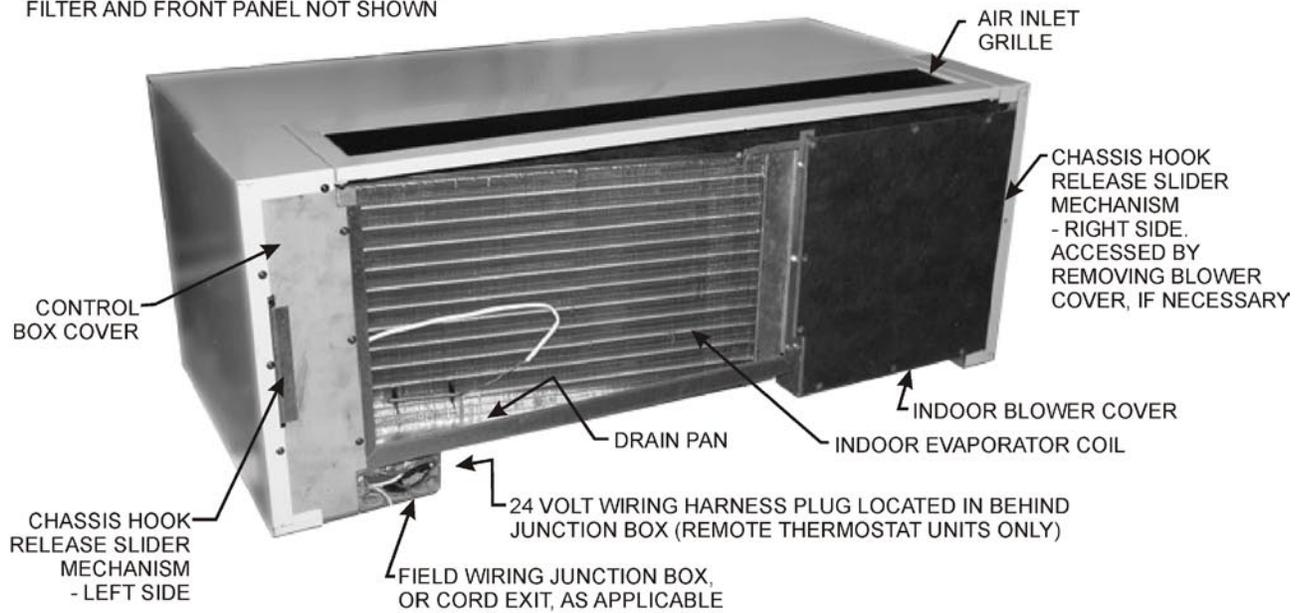
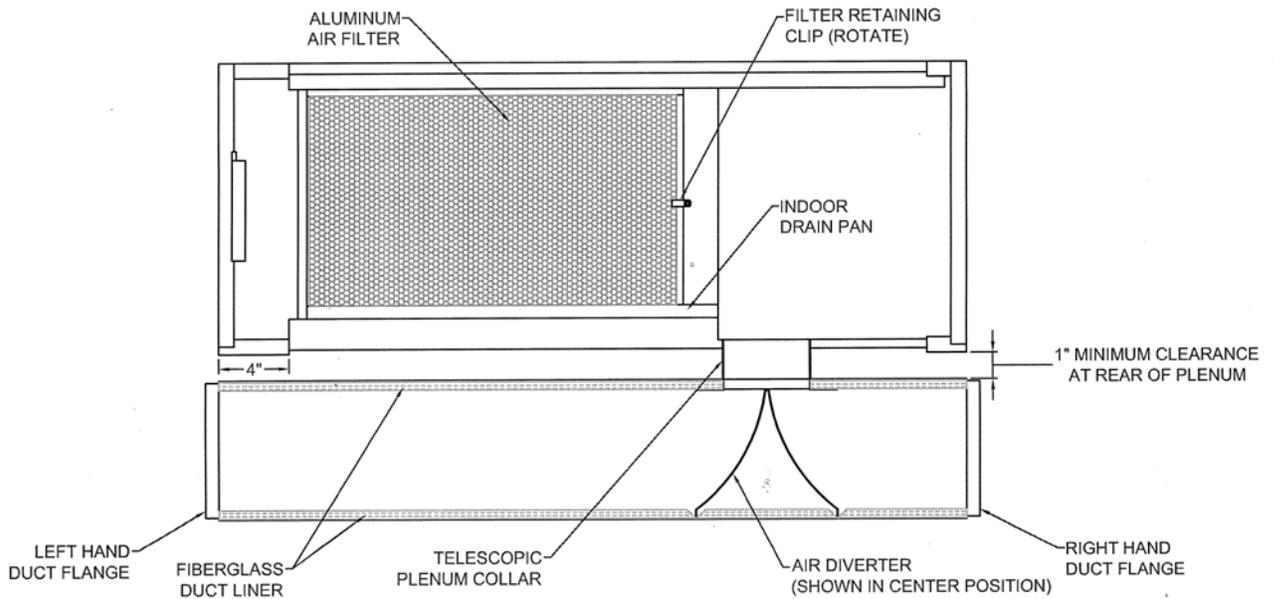

Fig. 1.
Fig. 3.
In operation, indoor unconditioned air enters the intake grill at the top of the unit, and the conditioned air is discharged down toward the floor into a plenum box. The plenum box has two purposes; one, to turn the air at right angles so that it can be discharged out one or both ends via the attached ductwork, and, two, so that the proportion of air diverted to each duct run can be adjusted using a diverter plate located within the plenum box (see Fig. 3). A telescopic plenum collar is situated directly above the air diverter plate which engages the indoor blower outlet mouth, and allows air to flow into the plenum box.
The wall sleeve and the plenum box must be in an exact spatial relationship so that the telescopic collar in the plenum box aligns with the blower mouth in the heat/cool chassis after the chassis is installed in the sleeve. In particular, the rear edge of the plenum box must line up with the bottom flange of the sleeve, and the plenum box must be centered from side-to-side relative to the sleeve (see Figs. 3 and 4).
The chassis is normally provided as permanently-connected, with a field wiring junction box situated adjacent to the main control box, containing two current-carrying power leads and a ground lead. For units with electric heater capacities of 4.4 KW and less, the chassis can be ordered with a 5 foot power supply cord of the enhanced-safety LCDI type (Leakage Current Detection and Interruption), and correctly sized to the heater load. In such a case, the cord will exit the unit at the location where the junction box would have been placed, that is, adjacent to the main control box on the left hand side of the unit, as viewed from the inside (see Fig. 1).
The plenum is a horizontal duct fully insulated with ½" fiberglass, and situated directly beneath the chassis on the room side (see Fig. 1).
- d) The inside edge of the wall sleeve must be at least 9" above the finished floor. A distance of 9" to 9.5" is recommended. See Figure 1.
1. From the architect's drawings, determine the position of each unit and mark the centerline of the cabinet/wall sleeve. Also, mark the location of electrical junction box (see Fig.1), the plenum box, and plan the wire routing. The rear edge of the plenum box must line up with the bottom flange of the sleeve, and the plenum box must be centered from side-to-side relative to the sleeve (see Figs. 3 and 4).
5. Route the high voltage wiring/conduit/receptacle, as applicable. If the unit will be hard-wired, leave at least 7" of free wire for inside the conduit box to facilitate connections. If the unit will be cord-connected, install the receptacle at a desired location, recognizing the power cord length is 5 feet and exits out the bottom of the chassis as noted in Fig. 1.
6. Ensure any low voltage thermostat wiring, if applicable, will reach into the vicinity of the high voltage field wiring junction box or cord attachment point of the chassis (see Fig. 1). This will ensure connections can be made to the low voltage harness as described